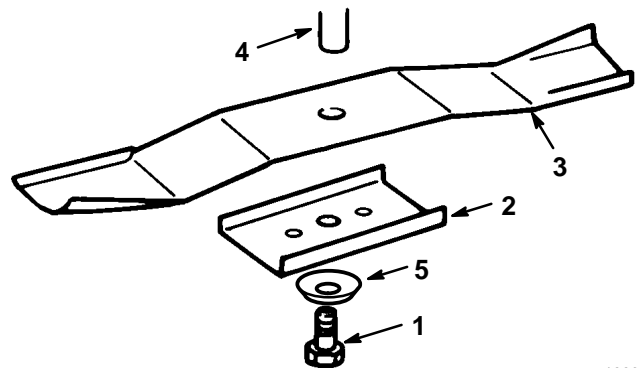

Figure 34
3. Remove the bolt (5/8" wrench), curved washer, retainer and blade (Fig. 34). A block of wood may be wedged between the blade and the mower to lock the blade when you are removing the bolt.
1. Install the blade, blade retainer, curved washer (cupped side toward blade), and the blade bolt (Fig. 34).